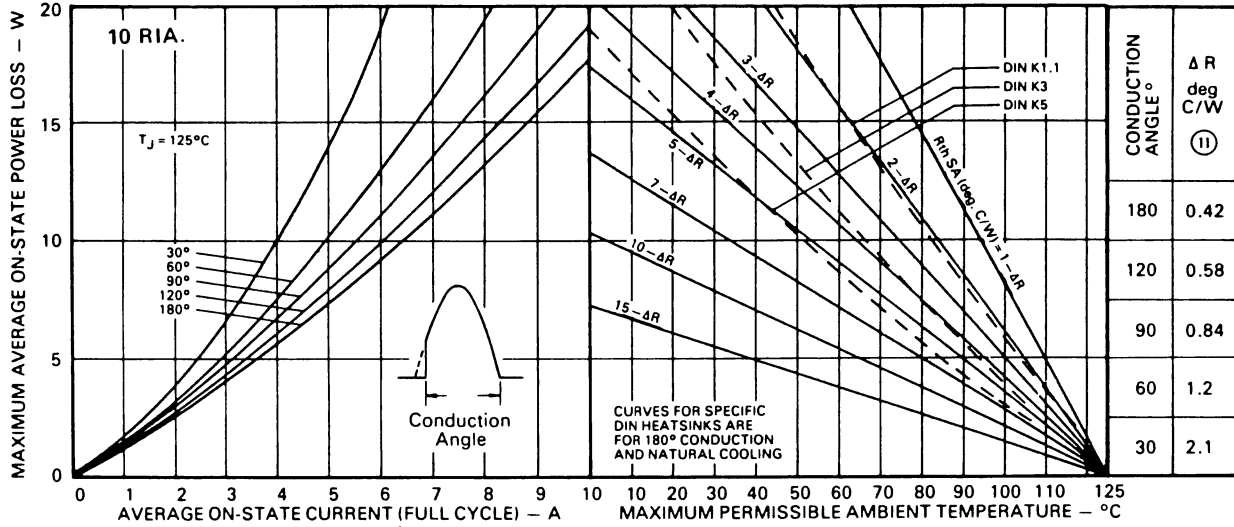

Fig. 1 – Continuous Current Rating Nomogram (Phase Angle Controlled Half-Sinusoidal Waveforms, 50–400 Hz), 10RIA Series.
(11) To determine required heatsink thermal resistance (R_{thSA}) in deg C/W use value of ΔR appropriate to conduction angle stated in table and substitute in formula $R_{thSA} = X - \Delta R$, e.g. for 10RIA at 180° conduction angle, 7.6A, and 60°C ambient temperature $R_{thSA} = 3 - 0.42 = 2.58$ deg. C/W (figs. 1 & 2)